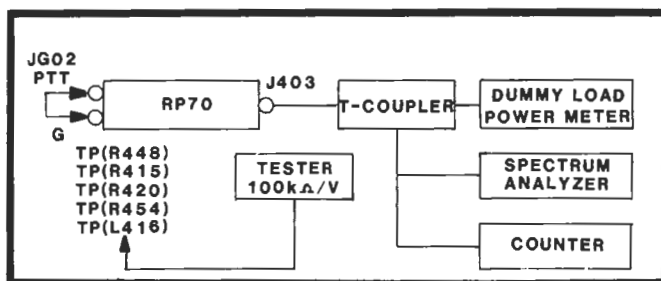

FIGURE 8. TX TEST SETUP
1. Connect the test equipment as shown in Figure 8. (Remove the coaxial cable which goes to the power stage).
NOTE: J403 is the TX Pre-Driver output jack in Figure 8.